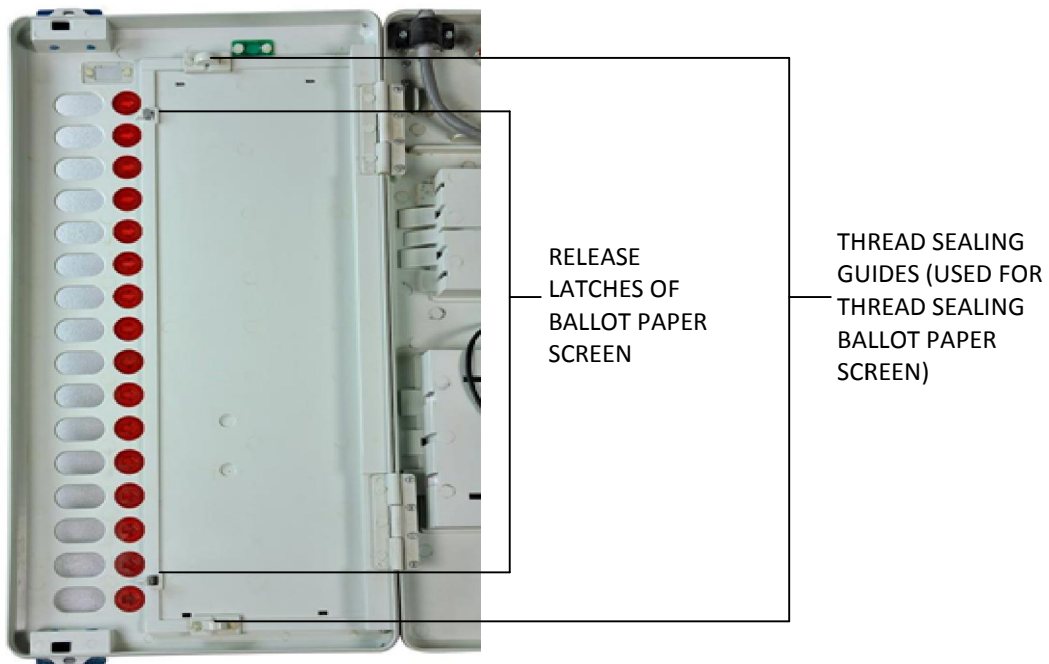
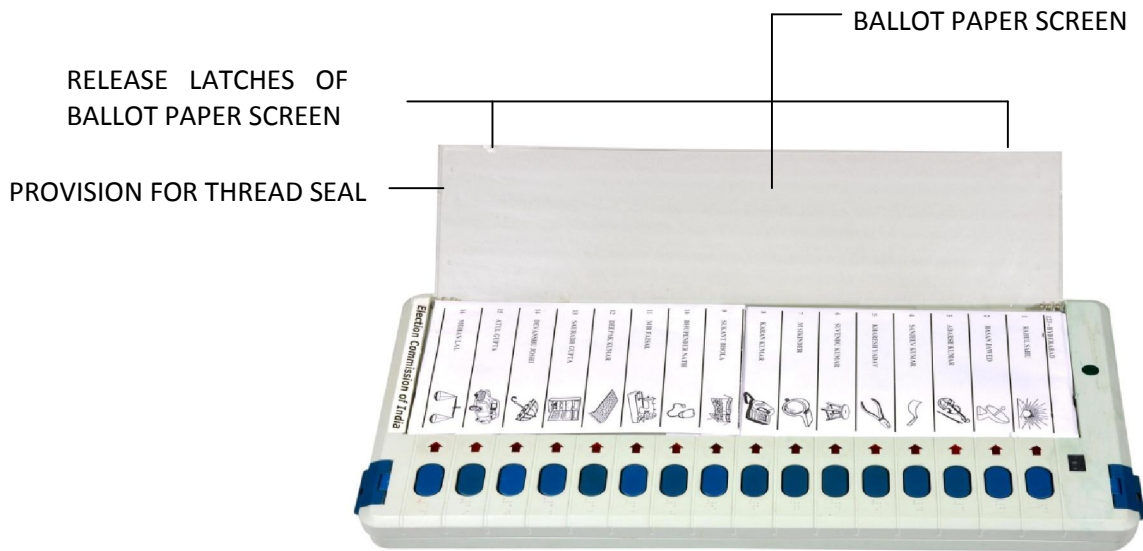

Fig.16 Inside View of Top Cover
Fig.17 View of the Upper Side of Top Cover
4. Open the ballot paper screen which is a transparent acrylic sheet hinged to the top cover on the extreme left side. The release latches of the screen are inside the top cover (Fig. 16). By pressing the latches simultaneously, first slightly towards right and then pushing them downwards, the ballot paper screen will become free for opening on the upper side of the top cover (Fig. 17). While opening the screen, care should be taken to ensure that it is not get damage.
6. After the ballot paper has been firmly fixed and the ballot paper screen has been press fit on the upper side of the top cover, the screen is to be sealed on the inner side of the top cover. This is to be done by passing the thread through the two holes on the screen specially provided for the purpose (Fig. 16) and by putting the thread seal on the prescribed address tag showing the particulars of the election with the seal of the Returning Officer.